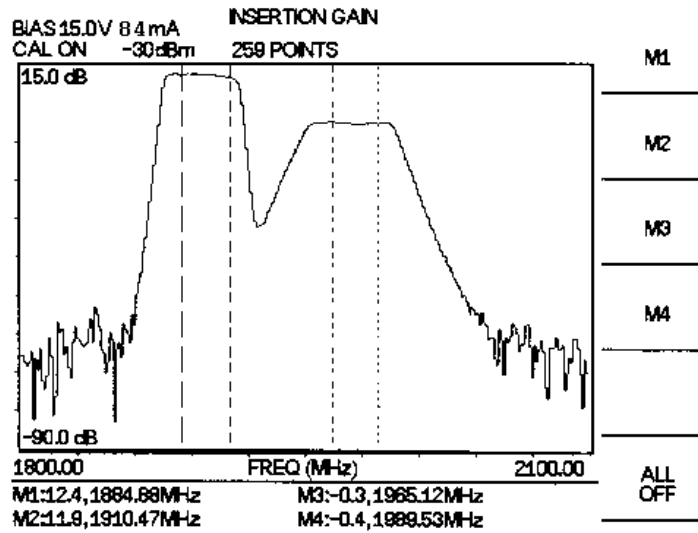

Figure 4-22. Measurement Display of Amplifier Gain
**Step 23.** Press the **BOTTOM** soft key and enter 9, 0 – using the keypad or Up/Down arrow key. Press **ENTER** to set the bottom scale to –90. Observe the display of amplifier gain performance (Figure 4-22).